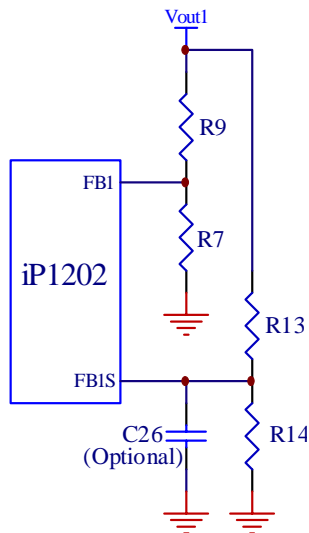

Fig. 17: Typical scheme for output voltage setting
Both outputs of the iP1202 will shut down if either one of the outputs experiences a voltage in the range of 115% of V_{OUT} . The overvoltage sense pins FB1s and FB2s are connected to the output through voltage dividers, R_{13} and R_{14} (Fig. 17), and the trip setpoints are programmed according to equation (1). Separate overvoltage sense pins FB1s and FB2s are provided to protect the power supply output if for some reason the main feedback loop is lost (for instance, loss of feedback resistors). An optional 100pF capacitor (C26) is used for delay and filtering purposes.
When selecting output capacitors, it is important to consider the overshoot performance of the power supply. If the amount of capacitance is not adequate, then, when unloading the output, the magnitude of the overshoot due to stored inductor energy, and depending on the speed of the response of the control loop, can exceed the overvoltage trip threshold of the iP1202 and can cause undesirable shutdown of the output. The magnitude of the overshoot should be kept below 1.125 V_{OUT} . To prevent the overshoot from tripping the output a delay can be added by installing capacitor C26 as shown in Fig.17.